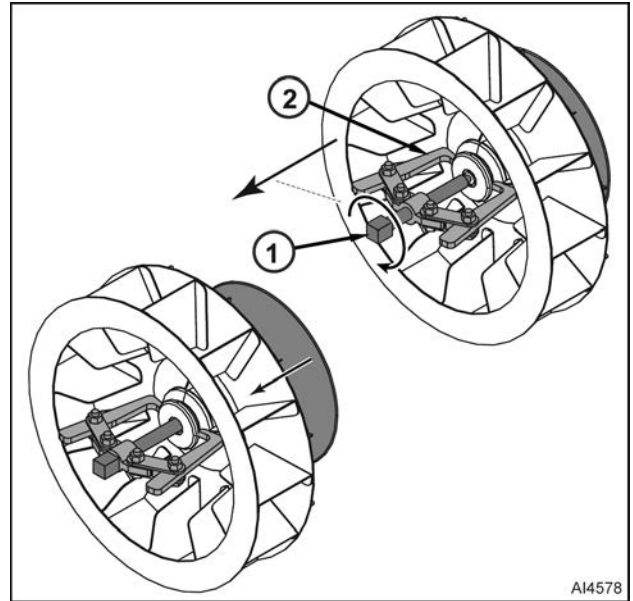

Fig. 27
5. Place puller over blower fan hub. Ensure arms (2, Fig. 27) engage hub properly.
6. Rotate puller shaft (1, Fig. 27) to break blower fan free of motor shaft.